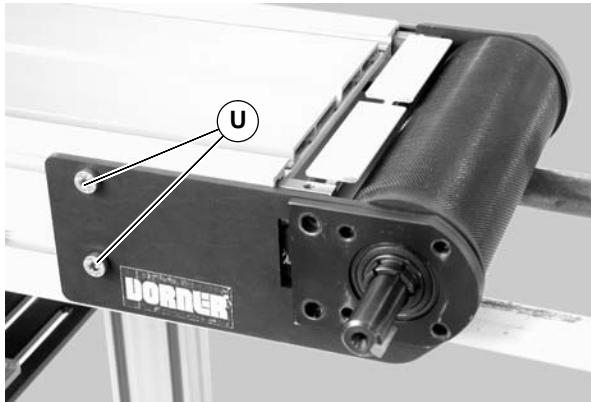

Figure 61
5. On the drive headplate, remove two (2) screws (U of Figure 61).